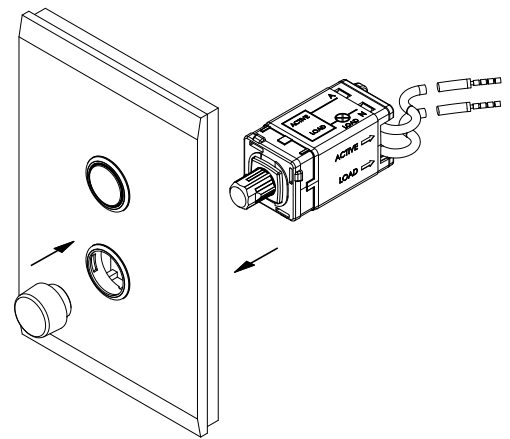

Fig 5: Attach HNS636DT and supplied silver knob.
- Attach the HNS636DT to the back of wall plate, and attach knob to the unit, as per Figure 5.